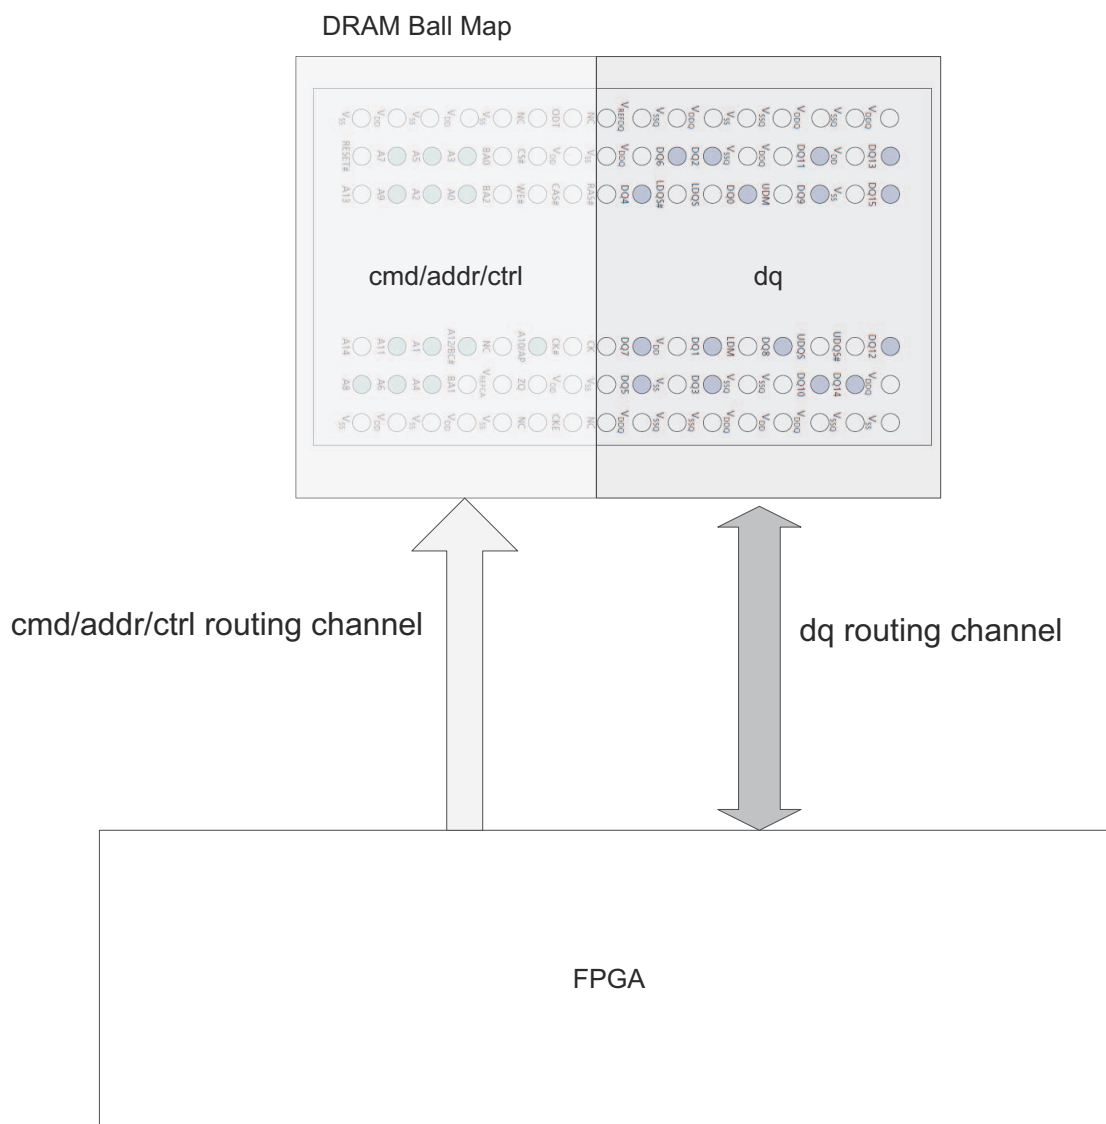
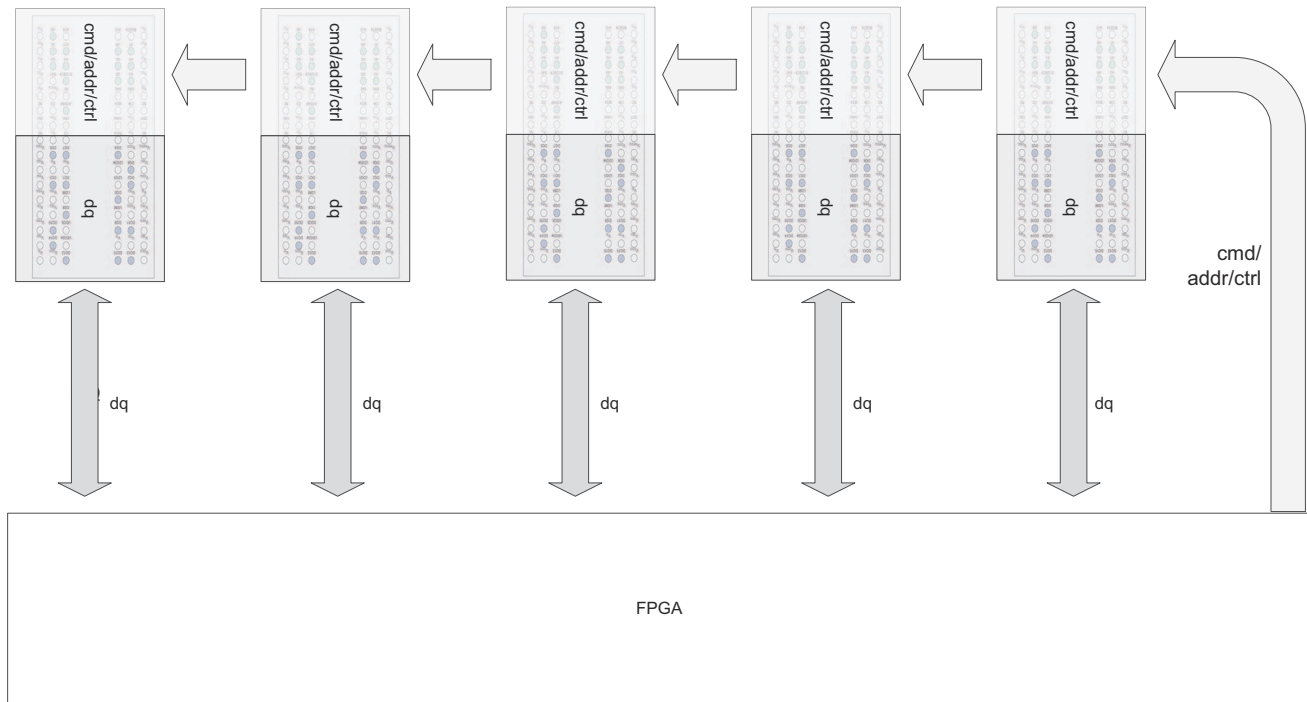

Figure 4-19: Component Placement Recommendations for One Component
Figure 4-20: Component Placement Recommendations for Five Components with Fly-By Topology
7. To optimize the component placement, the recommendations for one component is shown in Figure 4-19. For five components with fly-by topology, it is shown in Figure 4-20.